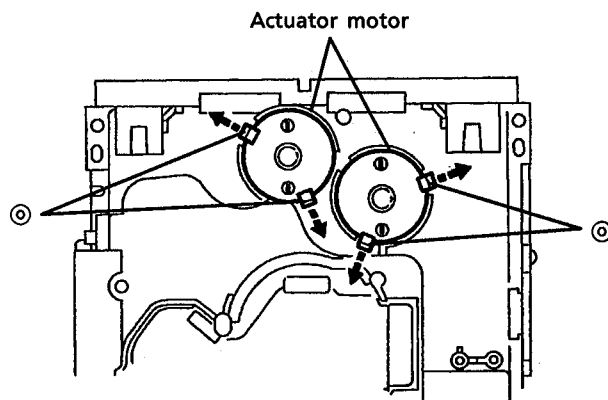

Fig. 46
5. Reverse the chassis ass'y and widen 4 poles ③ which secure both actuator motors to its arrows to remove the actuator motors. (See Fig.46.)